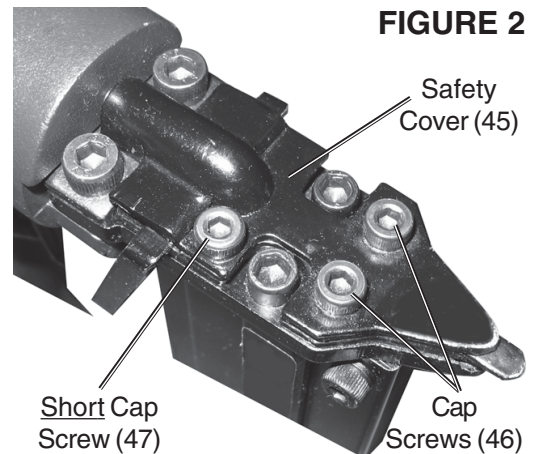
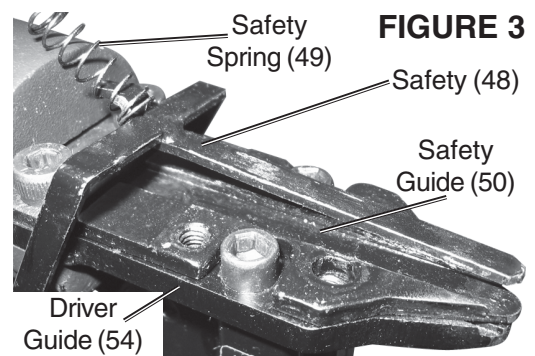

FIGURE 2
FIGURE 3
1. Disconnect tool from air hose, empty the **Magazine (57)** of pins, release any built-up air pressure, and leave the magazine open, as explained above.
2. Hold the Nailer pointed away from you and any other people or fragile objects. Remove the **Short Cap Screw (47)** and the two longer **Cap Screws (46)** - see *Figure 2*. Remove the **Safety Cover (45)** and **Safety Spring (49)** and set them aside.
3. Remove the **Safety Guide (50)** carefully to avoid bending the **Safety (48)** - see *Figure 3*.
6. Lightly oil the **Driver (11)**. Replace the **Safety Guide (50)** underneath the **Safety (48)**. The **Safety (48)** should fit perfectly into the groove in the **Safety Guide (50)**. See *Figure 3*.
7. Replace the **Safety Spring (49)** onto the **Safety (48)** as in *Figure 3*. Carefully place the **Safety Cover (45)** over the **Safety** and **Spring** and attach using the **Cap Screws (46)** and the **Short Cap Screw (47)** - see *Figure 2*. Make sure that the **Short Cap Screw (47)** goes in the correct position. Make sure that the **Safety (48)** is spring loaded and moves freely, without sticking.
9. Press the **Safety (48)** of the Nailer against an appropriate piece of scrap wood.